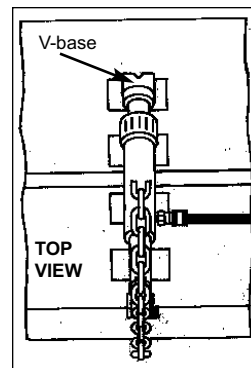
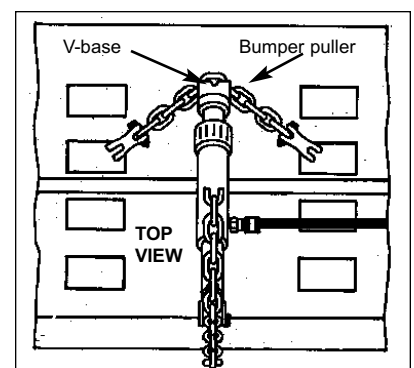

Figure 10A
Figure 10B
1. Position v-base of auxiliary ram assembly against tie down hole (see Figure 10A) or brace it against bumper puller chain that links adjacent rows of tie down holes (see Figure 10B). Bumper puller must be positioned on top of mainframe with its claw hooks engaging two tie down holes.